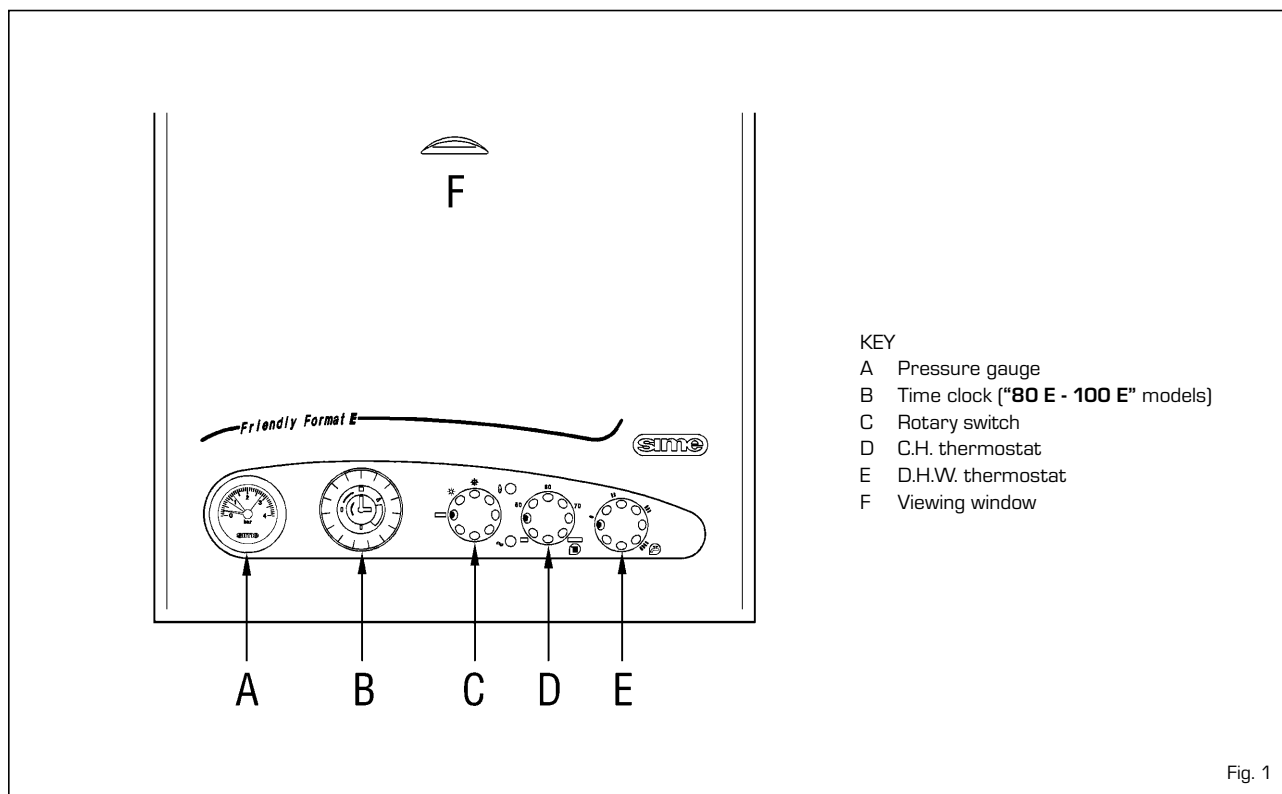

Fig. 1
1.3.1 To light the appliance (see fig. 1)
- Turn the rotary switch (C) to SUMMER (water only) position " * ".
1.3.2 To turn the appliance off (see fig. 1)
The gauge (A fig. 1) on the fascia panel indicates the approximate system pressure. If the normal running pressure is seen to decrease over a period of time there is a water leak and you should consult your installer or service engineer.